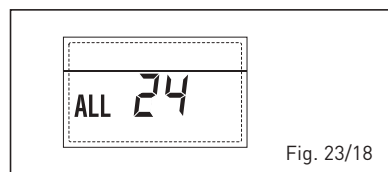

Fig. 23/18
– **ANOMALÍA SONDA ACUMULADOR SOLAR (S2) “ALL 25” (fig. 23/19)**